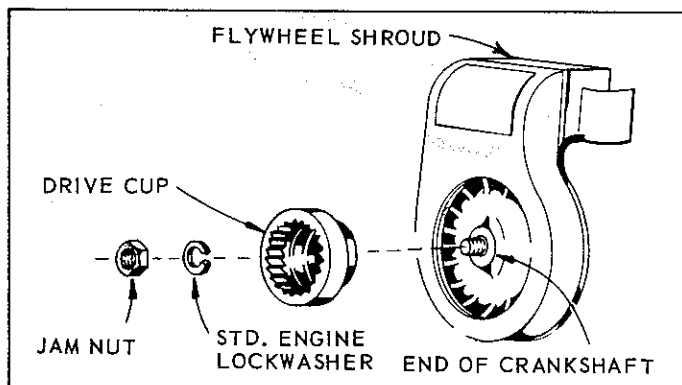
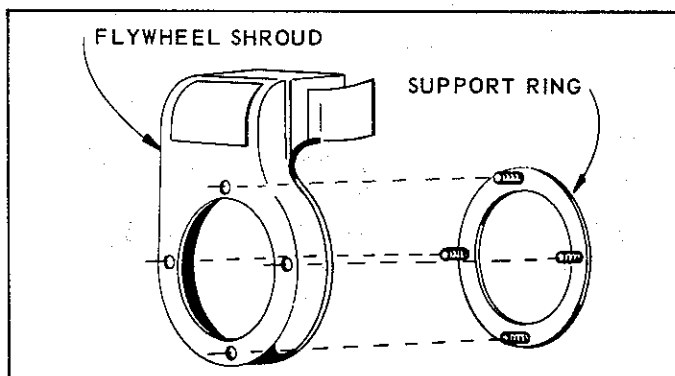

FIG. 2
FIG. 5
- B. Mount *drive cup* to end of crankshaft, as illustrated in *Fig. 2*. Secure in place with standard engine lockwasher and new *jam nut*.
F. Place *support ring* inside *flywheel shroud* with studs extended thru drilled holes, as shown in Fig. 5. Re-assemble *flywheel shroud*, *drive cup*, *lockwasher* and *jam nut*, as illustrated in Fig. 2.